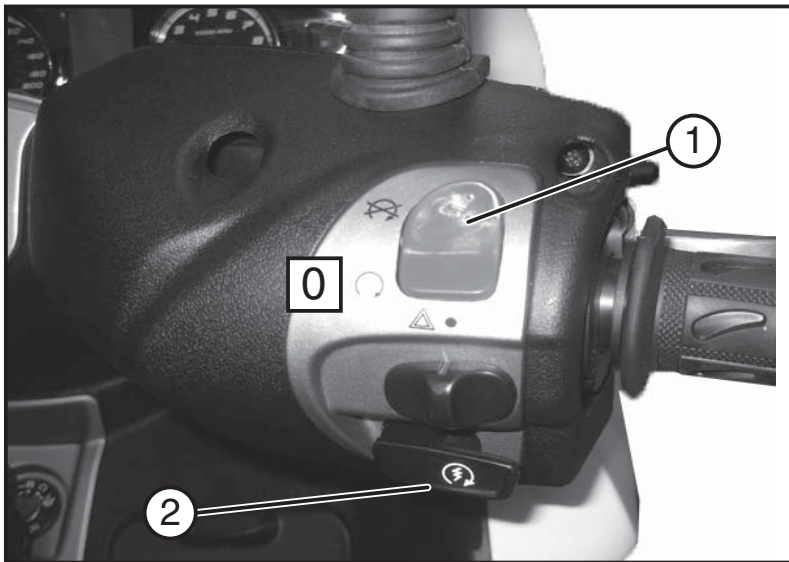

Fig. 01
- pull one of the two brake levers on the handlebar (or press the brake pedal) and press the starter button «**2 - Fig. 01**».